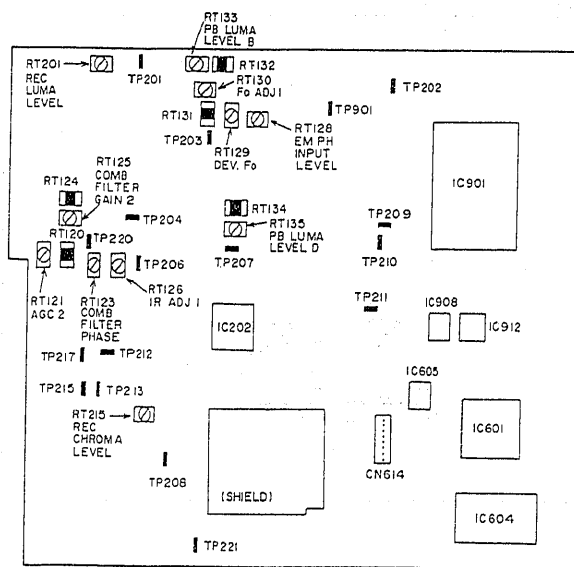

Fig. 4-151 Main Circuit Board (Side - A)
(2) Setting the Power Shut Off Level (Figs. 4-151, 4-152)